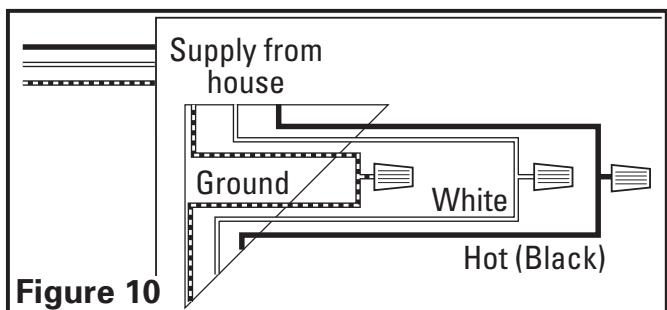

Figure 10
3. From where you have chosen to access the fan's junction box, connect the white wire from the house to the white wire from the fan's receptacle. Connect the black wire from the wall switch to the black wire from the fan's receptacle. Connect the ground wire from the house to the green wire from the fan housing (**Figure 10**). Use approved methods for all connections.